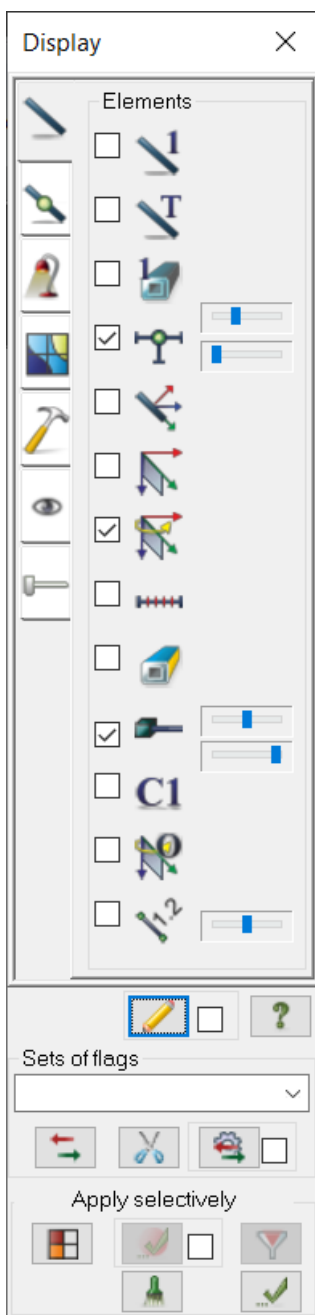

Figure 23.36. Display dialog box
- ⇒ In the **Display** dialog box (see Fig.23.36), select the **Unified local axes of plates and solids (for results)** check box on the **Elements** tab (the first tab).